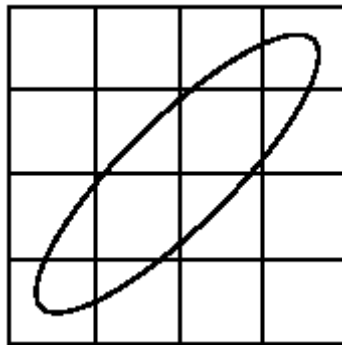

Figure 2. Typical FM Deviation Oscilloscope Display (Zero Beat Method).
- (1) Position oscilloscope controls as listed in (a) through (d) below:
- (2) Connect TI **COMP** (rear) to **CH2 INPUT** on oscilloscope, and synthesizer/level generator **OUTPUT 50  $\Omega$**  to **CH1 INPUT** of oscilloscope.
- (3) Enter a frequency of 108.000 MHz into TI and press **TONE SELECT 9960 FM** only (**30 Hz VAR OFF**) pushbutton.
- (4) Adjust oscilloscope **CH2 VOLT/DIV VARIABLE** control for a 4-division vertical deflection on crt.
- (5) Adjust synthesizer/level generator frequency to 9475 Hz and output amplitude controls for a 4-division horizontal deflection on **CH 1** of oscilloscope crt.
- (6) The crt will display a 4-division square pattern with a slowly oscillating circle or ellipse inside the square pattern as shown in figure 2.